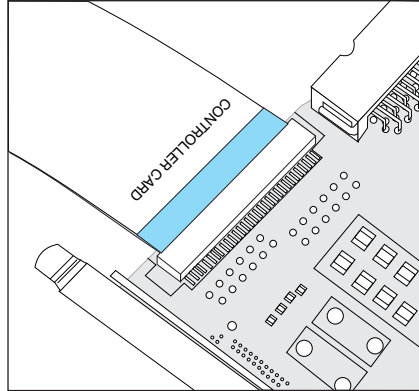
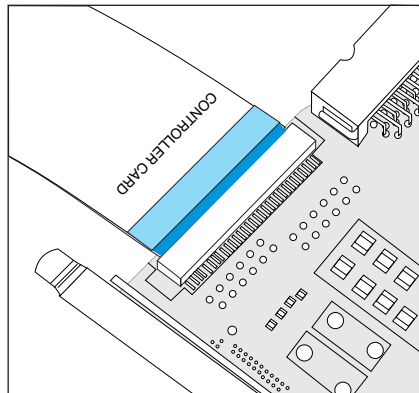

Figure 79. Service Controller card cable installed properly
Figure 80. Service Controller card cable not properly seated
- Before you reconnect the ribbon cable, ensure that its contacts are downward. *Carefully* install the cable to the rear of the service controller being sure to install the cable straight in with no rocking or twisting during installation. Be sure to verify that the dark blue line on each cable connector end is not visible. This ensures that the cable is fully seated. See Figure 79 on page 249 and Figure 80 on page 249.